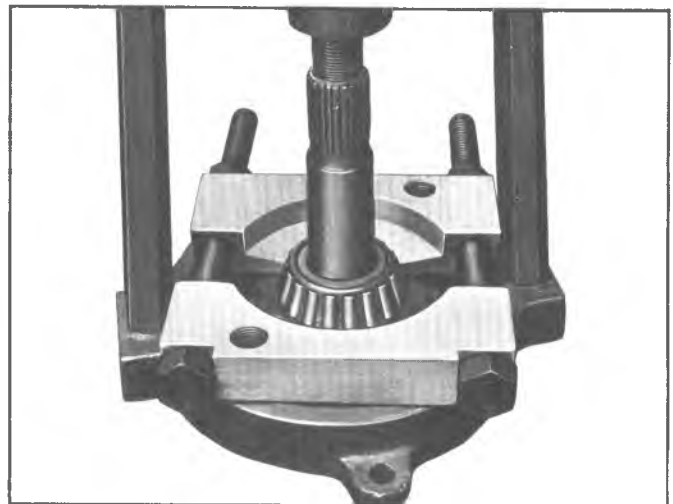

Fig. 19C—Removing Pinion Rear Bearing
3. Remove pinion rear bearing using Press Plates J-9771 in Holder J-0358-1 as shown in Figure 19C. Remove and discard shim between bearing and gear head.